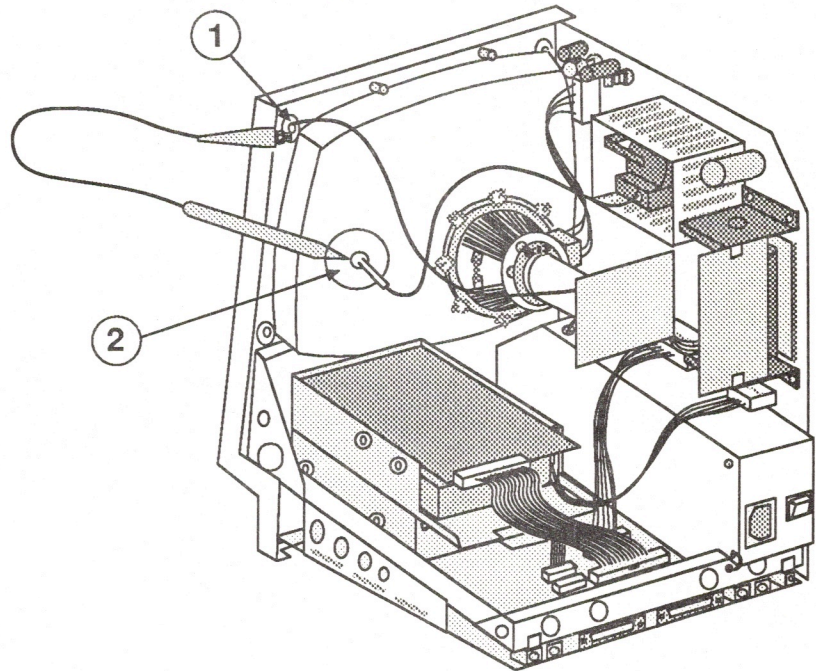

FIGURE 4
5. Attach the alligator clip on the CRT discharge tool to the metal part of the ground lug (Figure 4, #1).
CAUTION: Discharge the anode to the metal part of the ground lug displayed in Figure 4, #1. Failure to do so will damage the main logic board and/or the analog board.
7. Hold the CRT discharge tool to the tube surface, and insert it under the anode cap (Figure 4, #2) until it touches the anode ring.